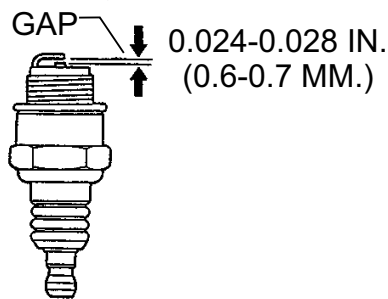

Figure 28. Spark Plug Gap
- Remove and clean the spark plug (Figure 28), then adjust the spark gap to 0.024 ~0.028 inch (0.6~0.7 mm). This unit has electronic ignition, which requires no adjustments.